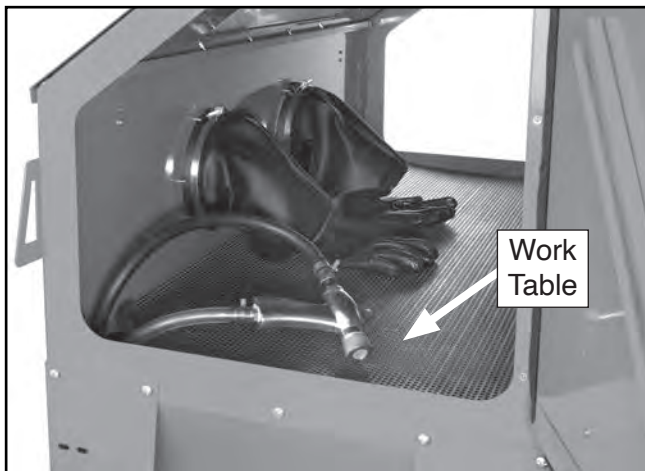

Figure 18. Work table and blast gun positioning.
23. Place work table into position, then lift work table up, and route blasting gun and hoses to right-front side of work table (see **Figure 18**).